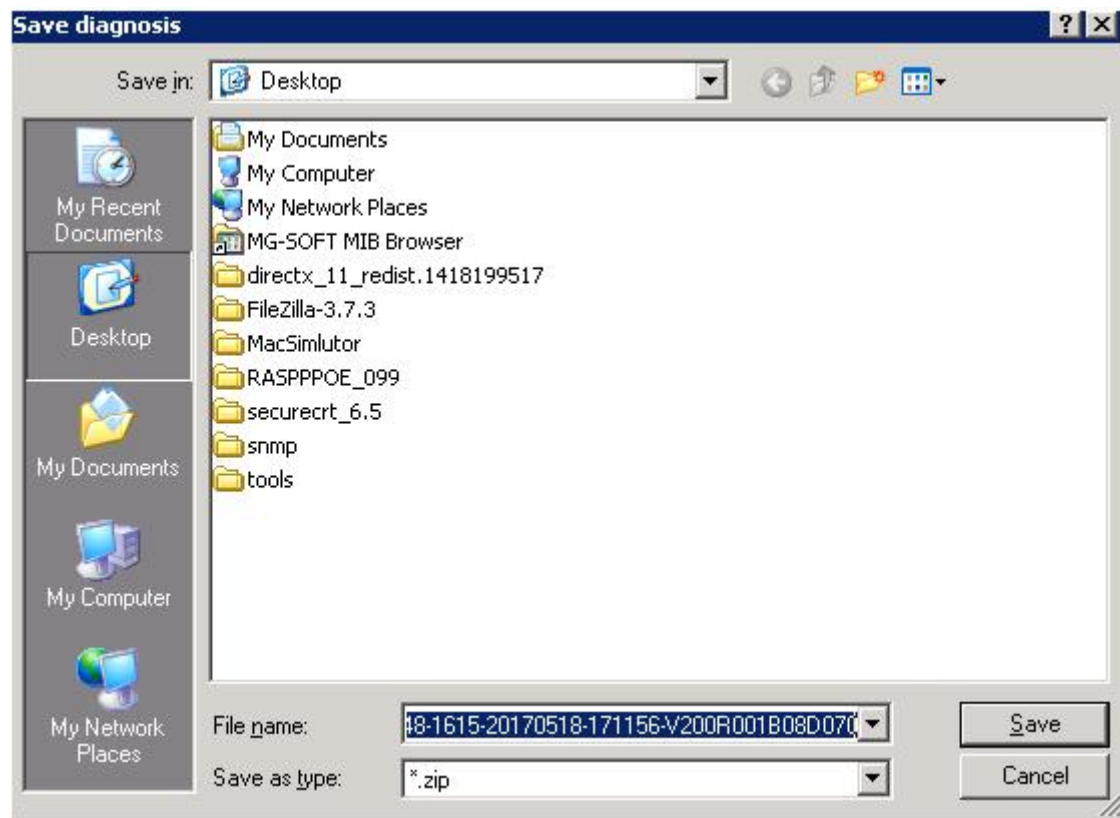

Figure 14-2 Saving configuration 2
- (2) From the popup dialogue box, select the save path and file name for the configuration file, and click **[Save]**, as shown in the Figure 14-2.